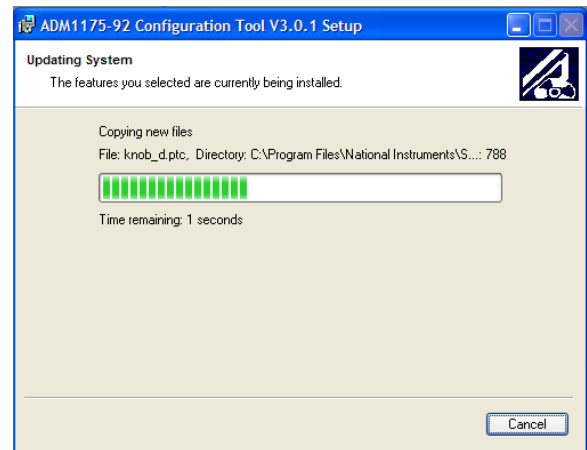

Figure 6. Installation in Progress
6. This step of the installation gives you the choice to reenter the installation information, to cancel out of the installation altogether, or to begin the installation. To continue with the installation, click **Next**. The installation begins (see Figure 6).